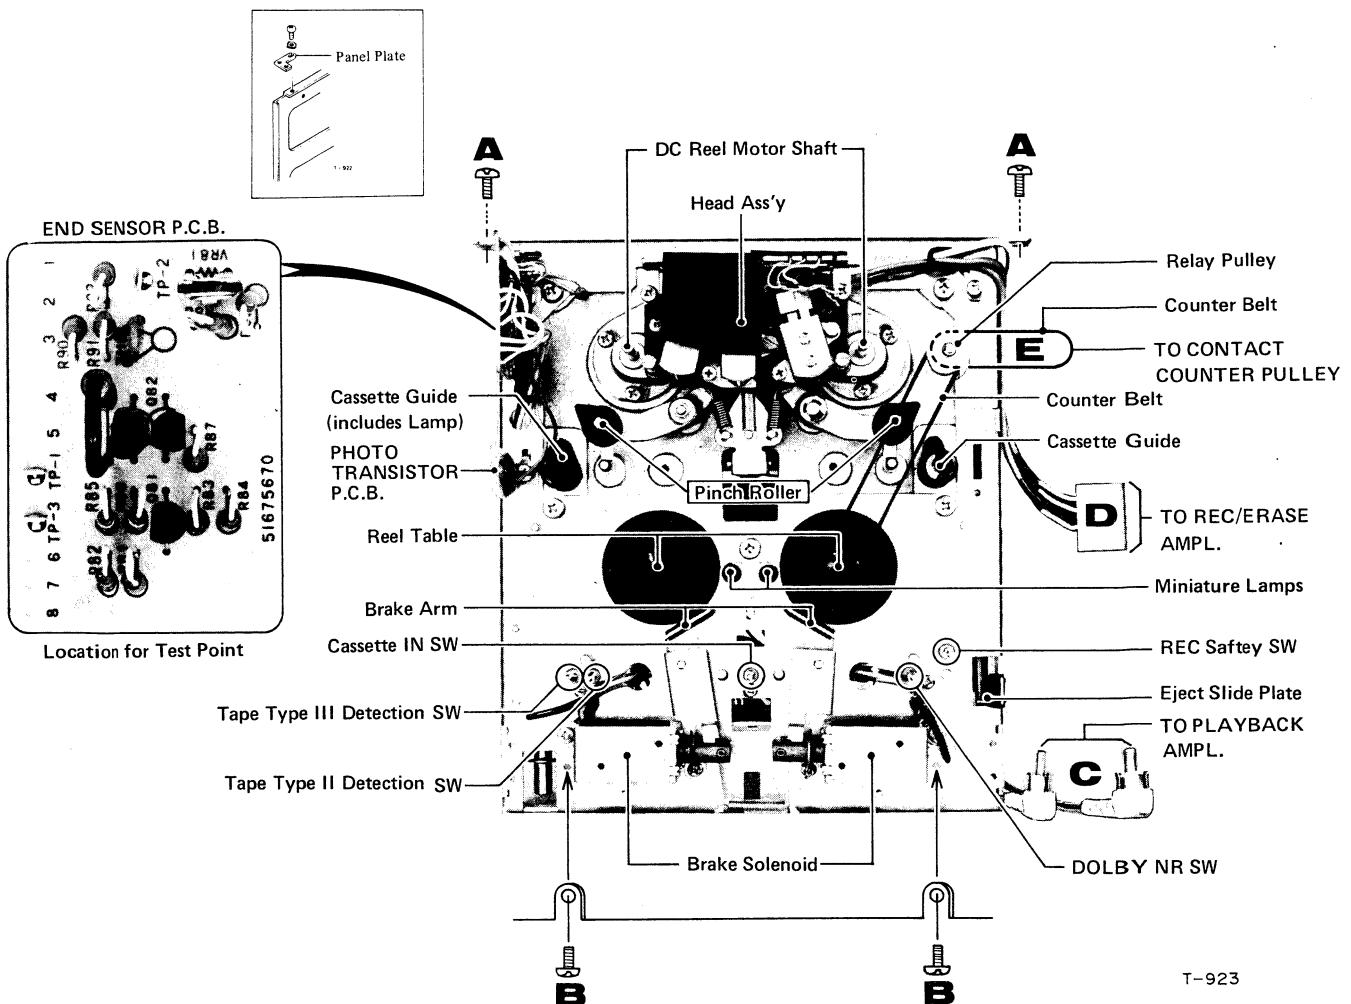

Fig. 4-3 Tape Transport Removal
3. Remove 2 wires (C) (1 red, 1 white) going to Pin cord jacks on PLAYBACK AMPL. P.C. BOARD.
Remove connector (D) to REC/ERASE AMPL. (as explained in Fig. 4-3.)